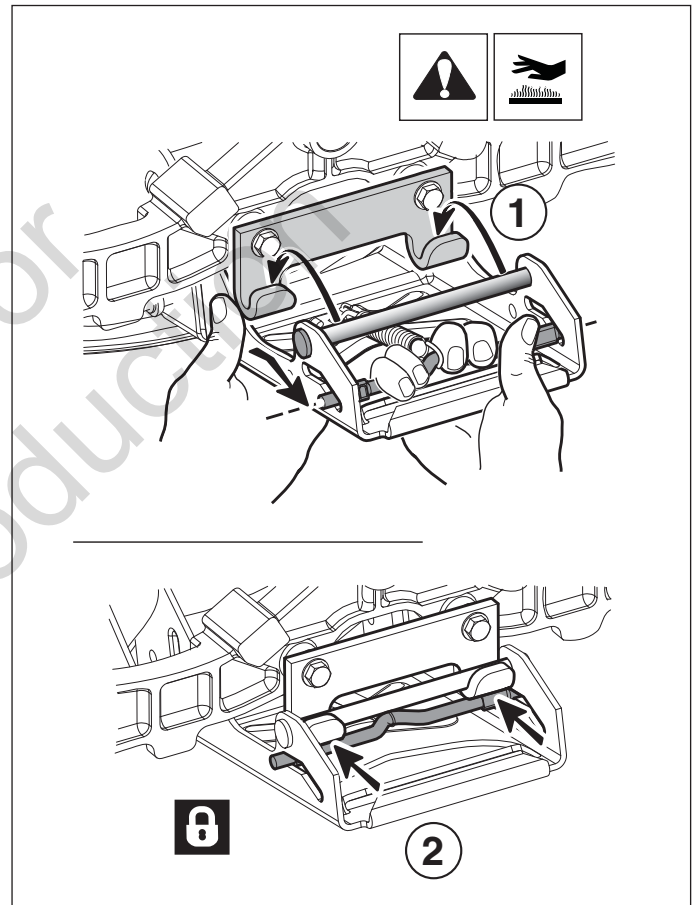

Figure 22
3. Turn the wheels straight ahead. Pull back on the spring-loaded lever and install the mower hitch on the tractor hitch brackets (see 1-2, Figure 22).